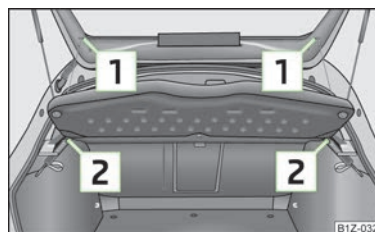

Fig. 55
-  Unhook the support straps   Fig. 55.